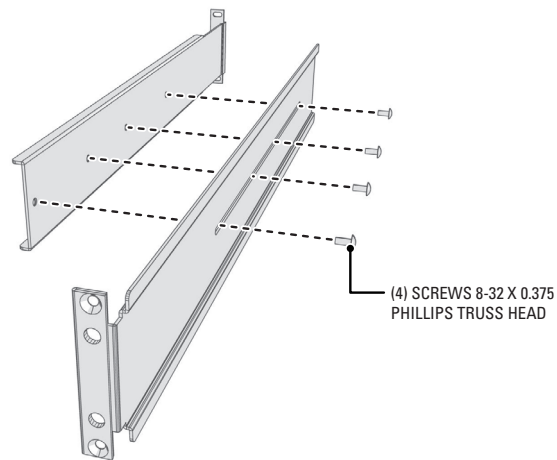

Figure 7. Assembling a Support Rail
3. Attach one front-mount rail to one rear-mount rail. Make sure the rails are mounted back to back, as shown in Figure 7. Depending on rack depth, use either three or four 8-32 x 0.375-inch Phillips truss head screws for each rail set. Leave the screws loose until step 10.